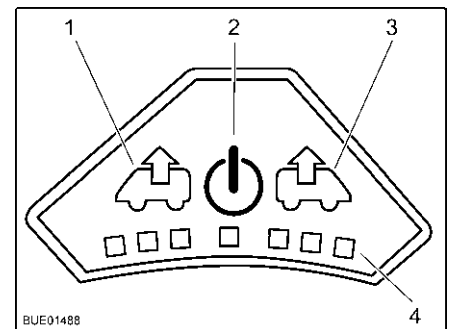

Fig. 93 Control panel for fan
- Press the On/Off button (Fig. 93,2). The fan runs in comfort mode (venting at slowest fan speed).
- To increase the fan speed: Press the Vent button (Fig. 93,1). The fan speed in the venting direction increases by one level. LEDs (Fig. 93,4) show the operating levels.
- To lower the fan speed: Press the Aerate button (Fig. 93,3). The fan speed decreases by one level.
- To increase the fan speed: Press the Aerate button (Fig. 93,3). The fan speed in the aerating direction increases by one step. LEDs (Fig. 93,4) show the operating levels.
- To lower the fan speed: Press the Vent button (Fig. 93,1). The fan speed decreases by one level.
- Press the On/Off button (Fig. 93,2). The fan stops, the LEDs go out.